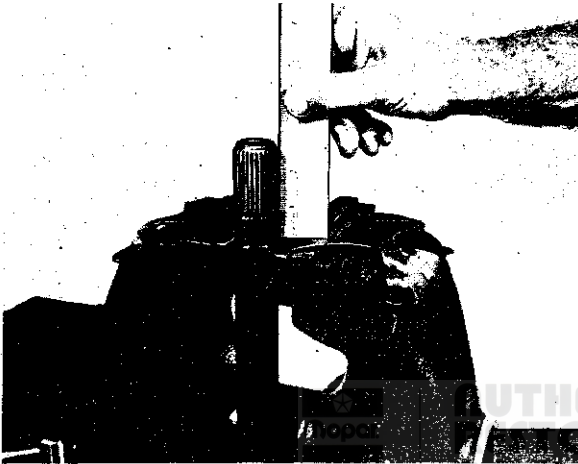

FIG. N-40—AXLE SHAFT POSITIONED IN VISE
a. Place the axle shaft, which was removed from the assembly, into a vise. Tighten shaft in vise firmly. The spline end of the shaft is not to extend beyond $2\frac{3}{4}$ " [7 cm.] above the top of the vise. This will eliminate the shaft from fully entering into the side gear and causing interference with the step plate tool during disassembly of the pinion mate gears, etc. Refer to Fig. N-40.